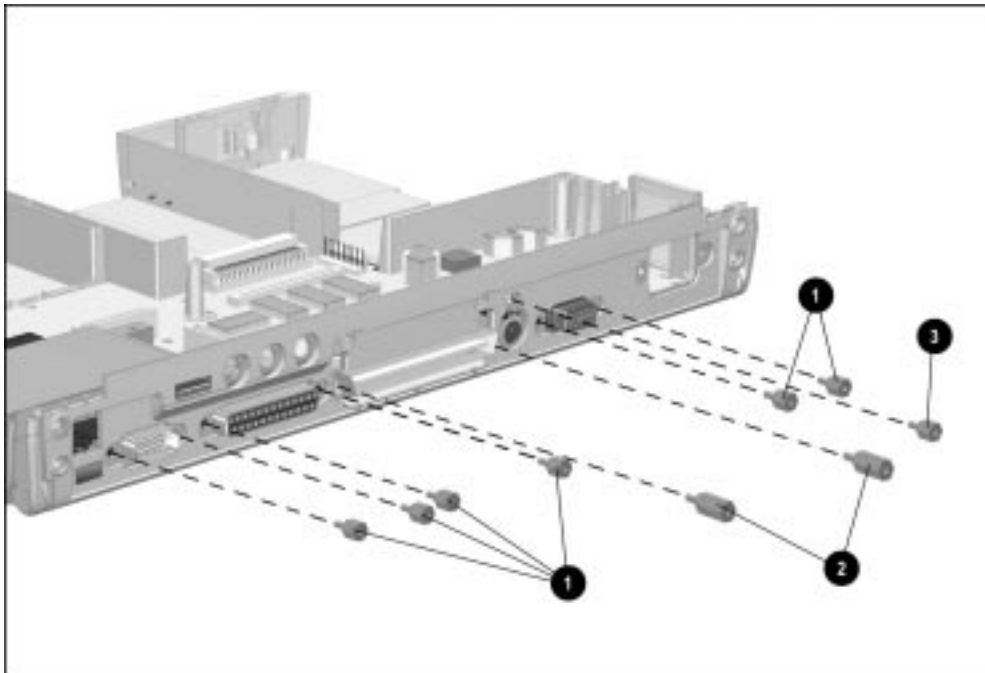

Figure 5-78. Removing the System Board Screwlocks and Keyboard/Mouse Connector Screw
21. Remove the six 3/16-inch screwlocks ❶ that secure the system board and I/O bracket to the CPU base assembly (Figure 5-78).
22. Remove the two 7-millimeter guide bushings ❷ that secure the the system board and I/O bracket to the CPU base assembly.
23. Remove the screw located above the external keyboard/mouse connector ❸.